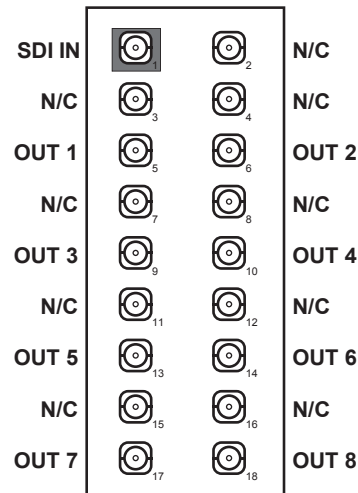

Figure 2.3 Cable Connections for the 8320AR-302 Full Rear Module
- 8320AR-302 Full Rear Module — Each rear module occupies two slots and accommodates one card. This rear module provides an SDI input, and eight SDI outputs via HD-BNC connections. (**Figure 2.3**)